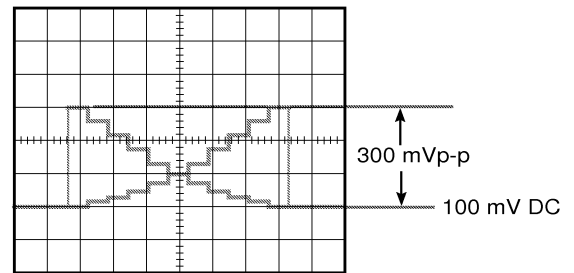

Fig. 4-3
- Adjust R355 so that the Gch Signal level at E201 becomes 300 mV as shown in Fig 4-3.
- Adjust R363 so that the Gch DC Voltage at E201 becomes 100 mV DC as shown in Fig 4-3.
- Adjust R555 so that the Rch Signal level at E101 becomes 300 mV as shown in Fig 4-3.
- Adjust R563 so that the Rch DC Voltage at E101 becomes 100 mV DC as shown in Fig 4-3.
- Set the Lens Iris so that the peak level of the Gray Scale from the Blanking level becomes 300 mVp-p as shown in Fig. 4-3.